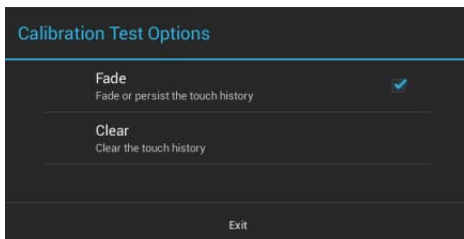

FIG. 24 Calibration Test Options window
4. For options when testing the calibration of the touch panel, select **Options** to open the *Calibration Test Options* window (FIG. 24).